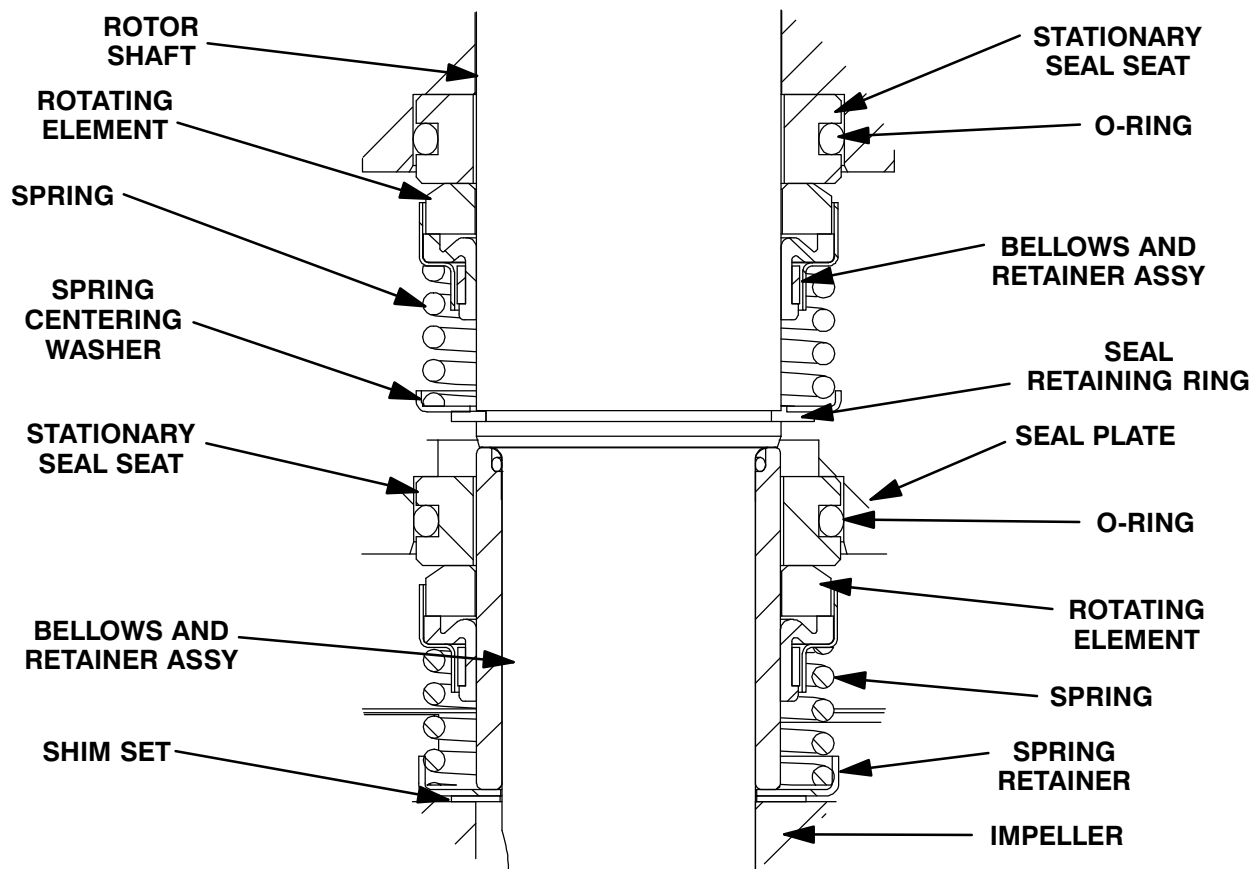

Figure E-3. Upper And Lower Seal Assemblies
Install the shaft seals as illustrated in Figure E-3.
Slide the seal spring over the shaft and bellows retainer and install the spring centering washer. Install the seal retaining ring (10). See Figure E-3 for the proper order of seal assembly.
Install the seal spring over the bellows retainer and install the spring retainer (28). See Figure E-3 for proper order of seal assembly.